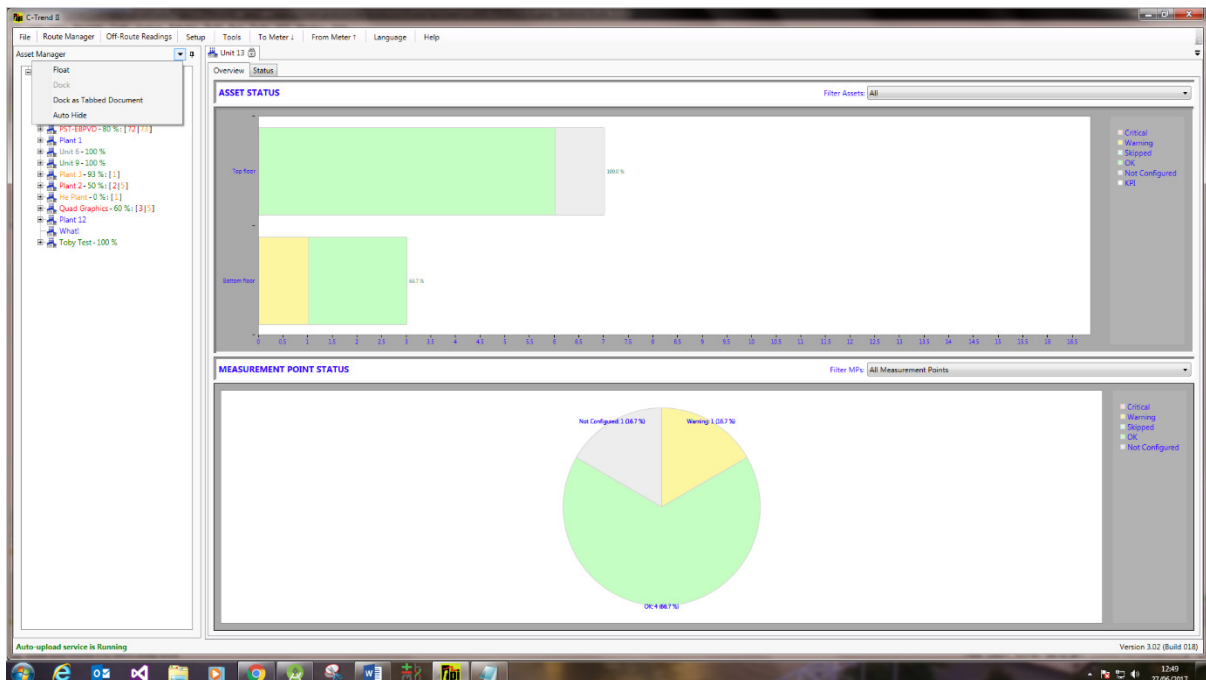

Figure 12
1.2.2 Dashboard). This is accomplished by clicking on the small downward-pointing triangle at the top of the window and using the menu options provided. (Figure 12.)